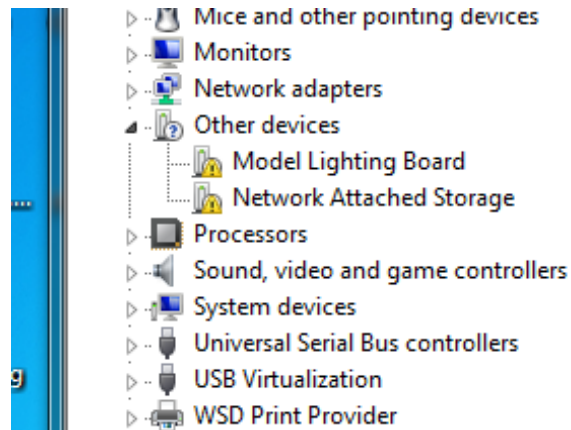

Figure 2: Device Manager - Model Lighting Board
5. Select “Device Manager” from within the control. The device manager will pop up and you will see a device that has a driver problem with the name “Model Lighting Board” as seen in Figure 2. Right click on “Model Lighting Board” and select “Update Driver Software...”